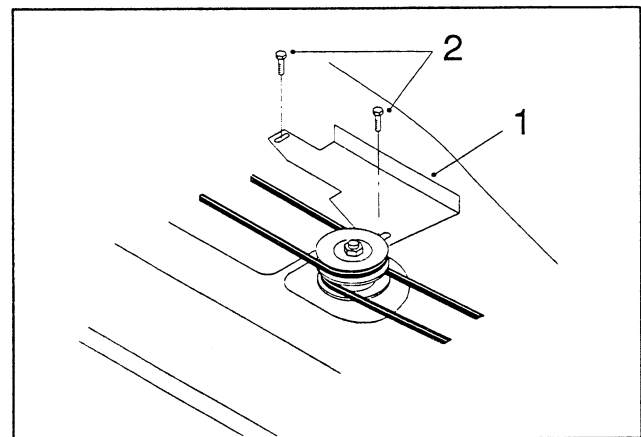

Figure 6
1. **42" mowers only:** Mount the mower belt-cover bracket (Fig. 6) to the mower using two $\frac{1}{4}$ " x $\frac{1}{2}$ " thread-forming hex-head flange screws in the same holes that the original cover used.